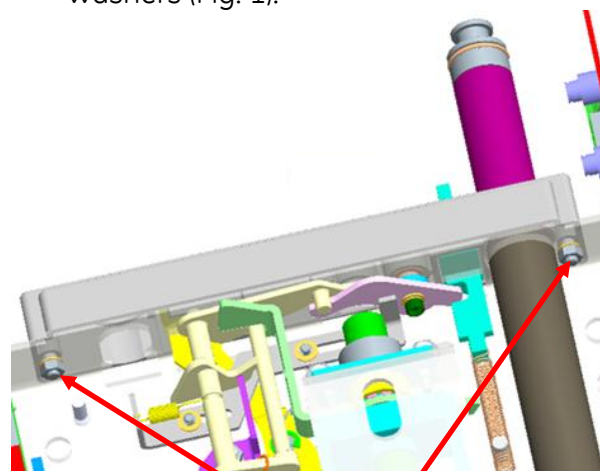

Figure 1
1. Dismantle the cassette front panel, by removing the two M5 nuts and ribbed washers (Fig. 1).